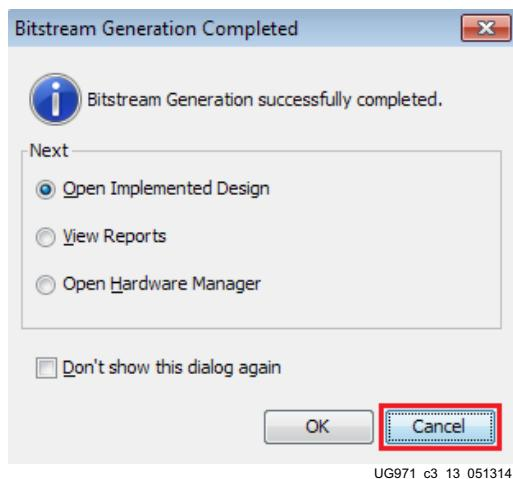

Figure 3-13: Bitstream Generation Completed
12. When the Bitstream Generation Completed dialog window appears, click **Cancel** (Figure 3-13).